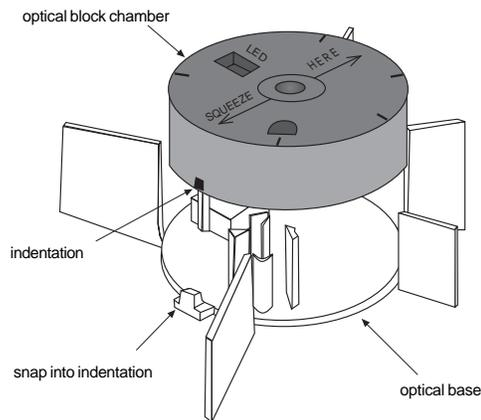

Figure 6. Detector Maintenance
1. Open the detector cover, unsnap and throw away the optical block chamber. See Figure 6.